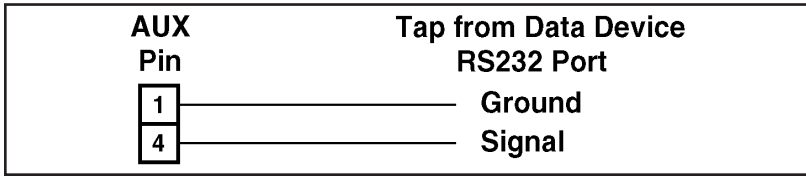

Figure 6.2: AUX Port Connection
2. **Connect Line from Data Device:** Connect a line from the Data Device to the AUX Port as shown in Figure 6.2.